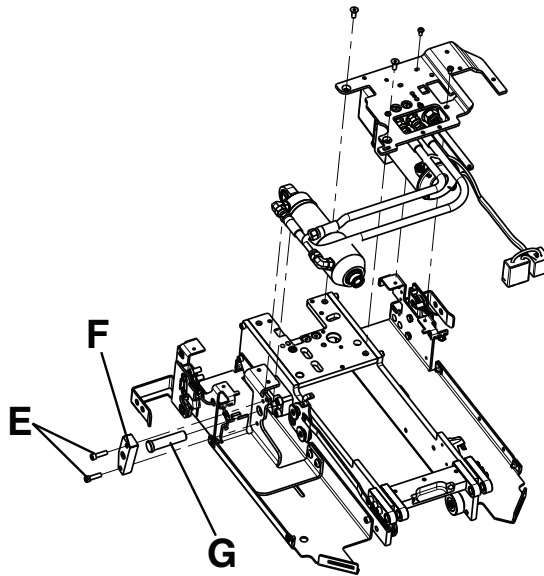

Figure 34 – Hydraulic cylinder pin location
10. Using a 3/16" hex wrench, remove the two screws (E) that secure the cylinder bracket (F) to the trolley and remove the end cap cylinder pin (G) (Figure 34). Save the screws.